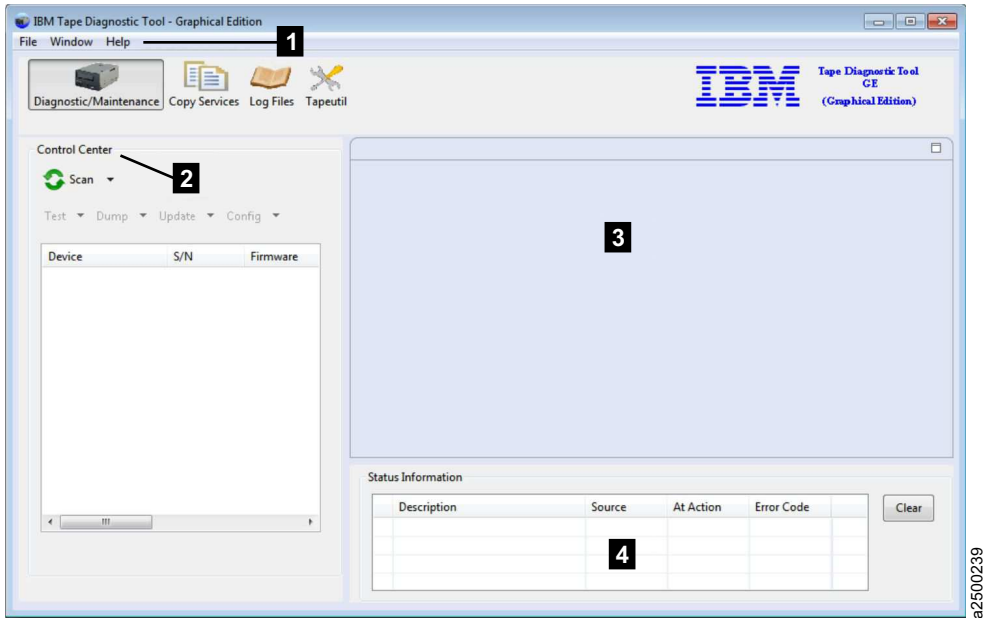

Figure 43. Graphical Edition interface
- Main menu (**1** on Figure 43)- in upper left (File, Window, Help) The following main program menu items are available:
- Control Center (**2** on Figure 43 on page 194) - On left side (Device operations - Scan, Test, Dump, and Update)
- Test Lab (**3** on Figure 43 on page 194) - Located from center to right side (Contains running and previously run tests)
- Status Information (**4** on Figure 43 on page 194) - Located below the Test Lab (Contains summary results of tests)